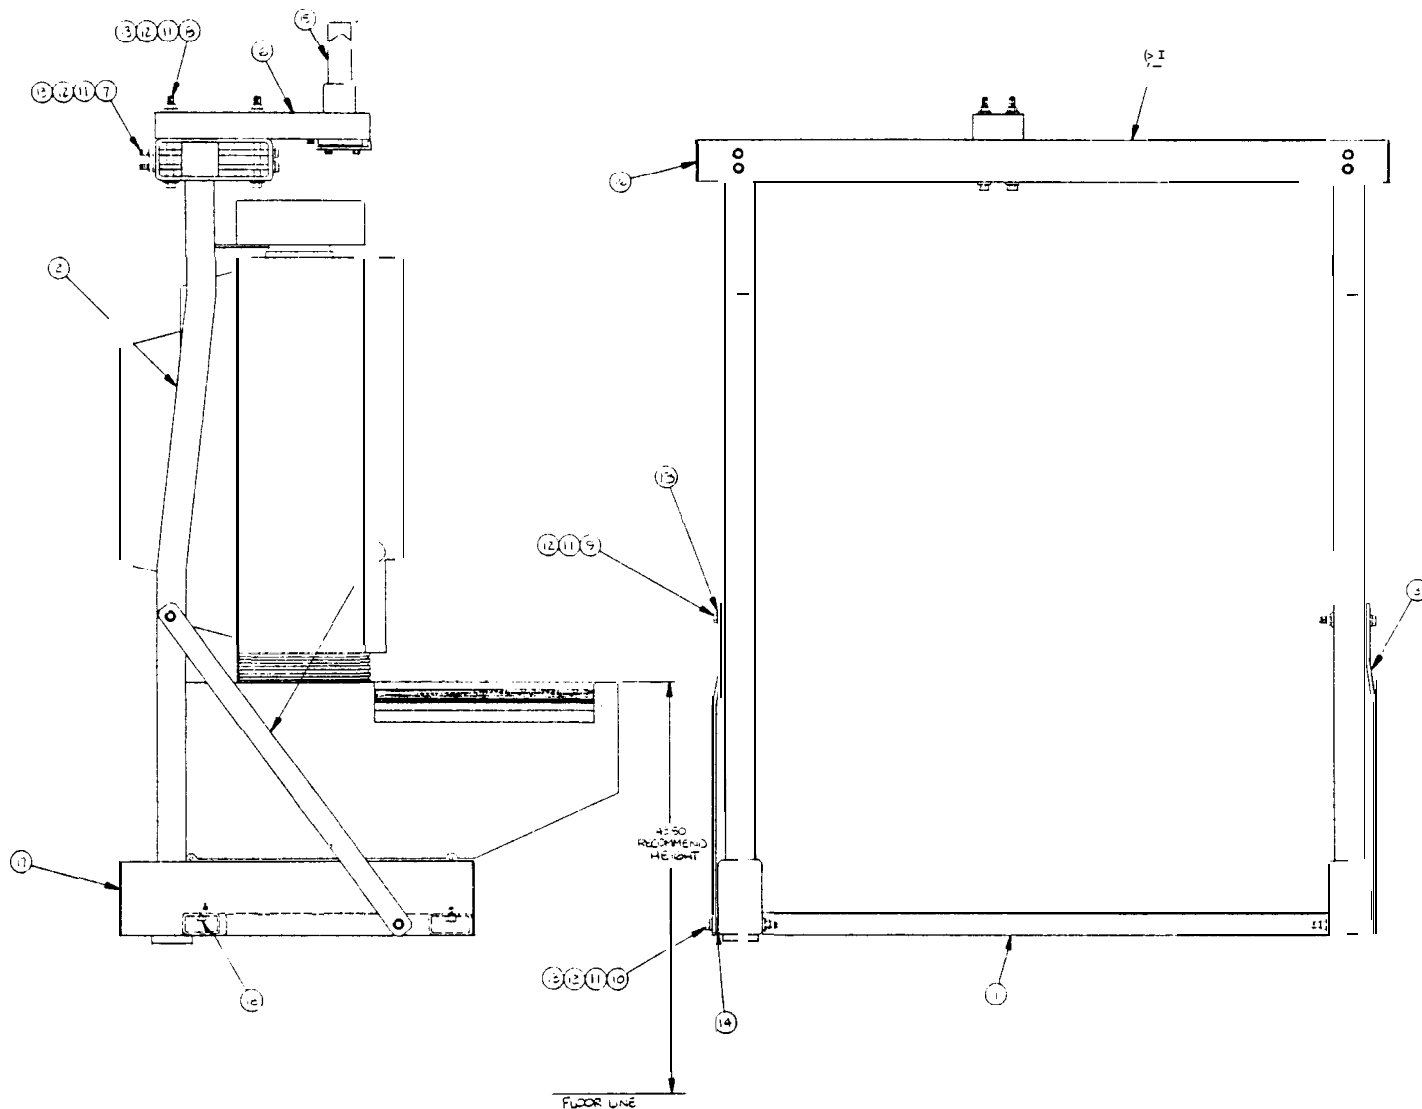

Figure 6
10. Position the MCA-3000 on the Base Weld Assy. and align the mounting holes in the bottom of the MCA with those in the Base. Install 4 bolts item 18 into MCA.
11. Lower the MCA with Base Weld Assy on to its back and install the two Suspension Tube Weld Assy. item 2 into the holes in the Base. Return the MCA to the upright position.
12. Install the two Suspension Brackets item 3 to the Suspension Tubes and Base using a 3" bolt item 9 in the tube and a 4" bolt item 10 in the base. Please pay attention to the positioning of the offsets and bends in the brackets and tubes as shown in Figure 6 and make sure to install the spacer item 14 between the Bracket and the Base.
13. Place Top Suspension Beam item 5 over both Suspension tubes with the welds up and the larger portion of the offset facing the front. Place the four 9" bolts in place and fix in place using items 11, 12, and 13.
14. Raise the MCA and HSK frame up until it is the same height as the bottom of the Collar Block suspended from the beam. Line up the holes and insert the four 5 1/2" bolts and fasten in place using items 11, 12, and 13.